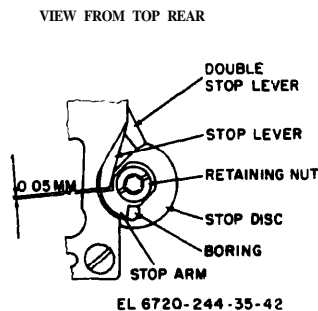

Figure 4-16. Position of stop disc.
g. Wind the shutter with the sprocket wheel, and push the winding lever against its stop. Place a screwdriver in the stop disc boring, and position the stop disc to rest against the upper portion of the double stop lever (fig. 4-16). Hold the sprocket wheel and make certain it does not rotate while making this adjustment. Simultaneously push the stop arm toward the stop lever, leaving a clearance of approximately 0.05 mm. Tighten the retaining nut, An axial play of the sprocket wheel of 0.1 mm to 0.2 mm is permissible.
portion rests against the stop disc (fig. 4-16). Reinstall the top cover.